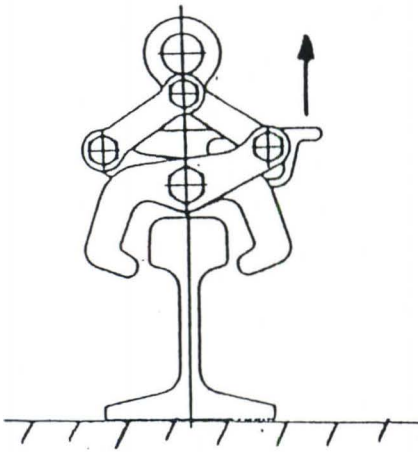

Fig. 5
5. On pulling the lever up to the direction of arrow and winding the crane hook up slowly, rail is gripped as shown in Fig. 5.